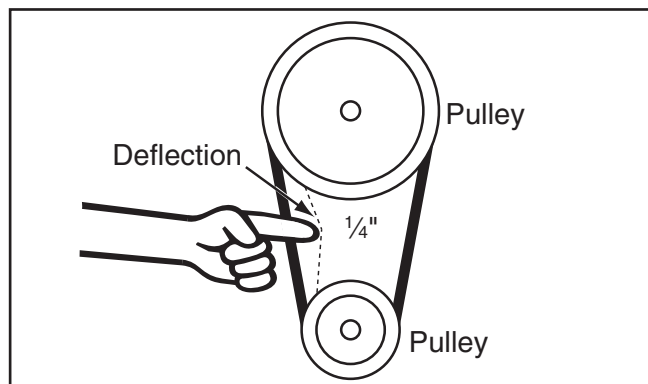

Figure 112. Correct timing-belt deflection.
4. Push down on motor until there is approximately $\frac{1}{4}$ " deflection in V-belts when moderate pressure is applied between pulleys, as shown in **Figure 112**.